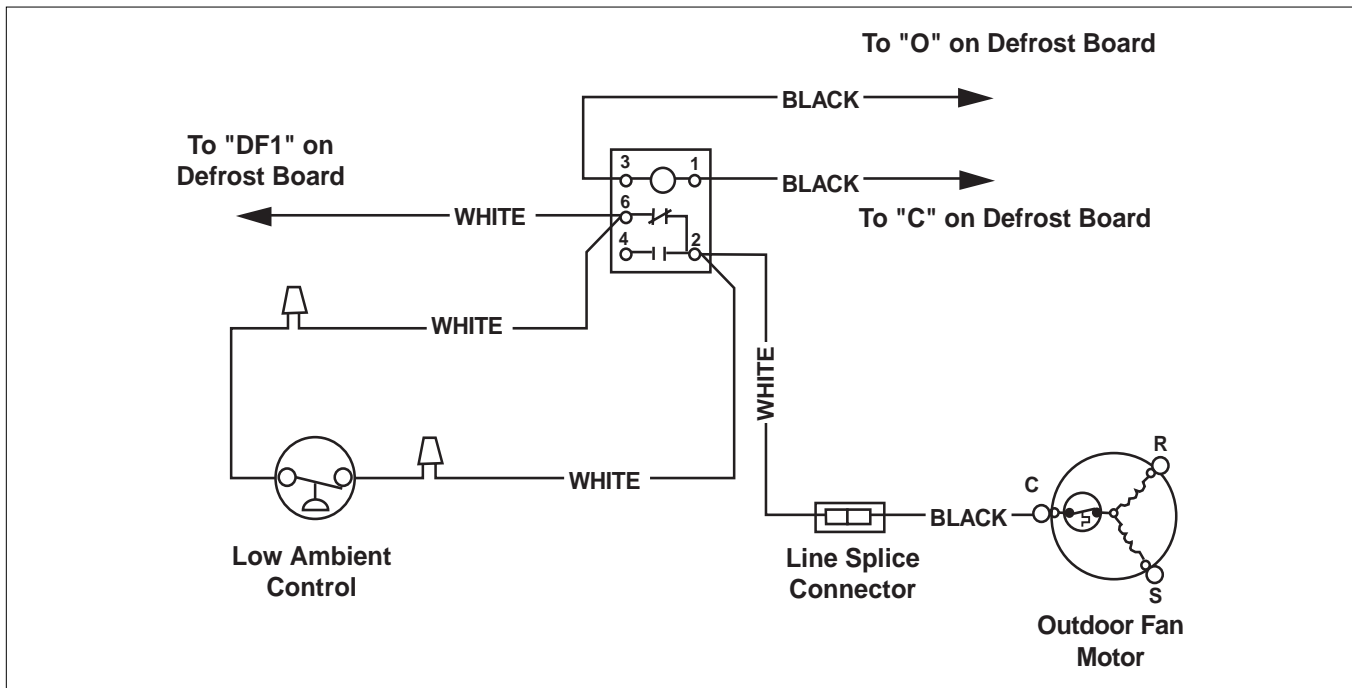

Figure 2. Heat Pump Low Ambient Control Kit Wiring Diagram
- f) Plug one of the two remaining wires from the relay into the line splice connector. Connect the other wire to "DF1" on the defrost board. (See Figure 2)